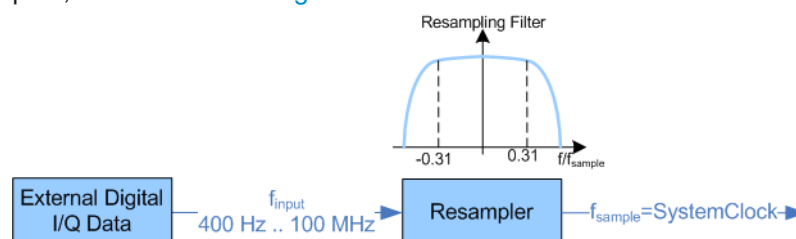

Figure 5-41: Resampling principle of external digital baseband signals
- External input signals with sample rates different than the system clock are resampled, as illustrated on Figure 5-41.
- A baseband signal with a sample rate that is smaller than the used system clock is interpolated (see Figure 5-41). With R&S SMBV-B10, the resulting modulation bandwidth is calculated as $Sample\ Rate * 0.62$, i.e. with a sample rate of exactly 100 MHz, the modulation bandwidth is 62 MHz.